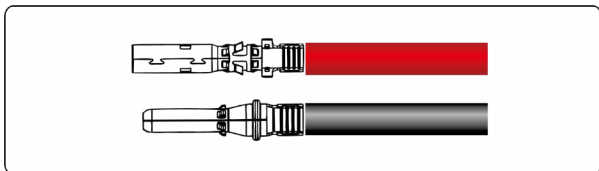

Figure 5.13 Crimping a metal connector
Step 4 Tighten the locking nuts on the positive and negative connectors using a removal wrench, as shown in **Figure 5.13**.